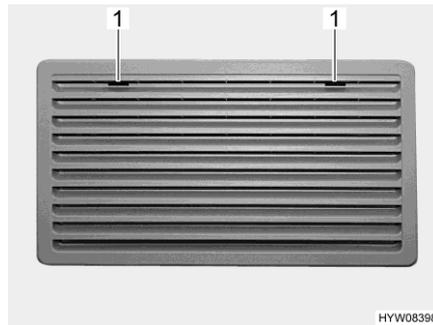
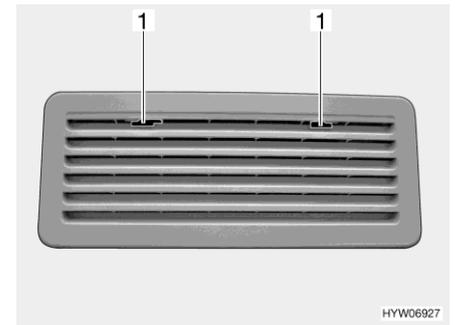

Fig. 252 Refrigerator ventilation grill
Fig. 253 Refrigerator ventilation grill
- Move the locking device (Fig. 252,1 or Fig. 253,1) to the middle.